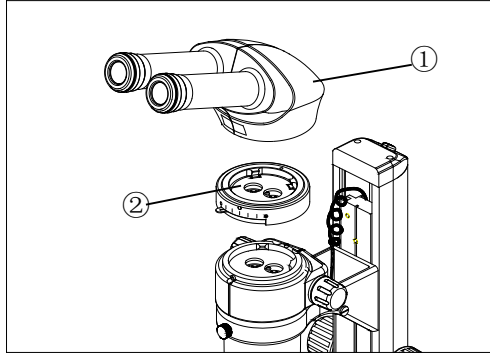
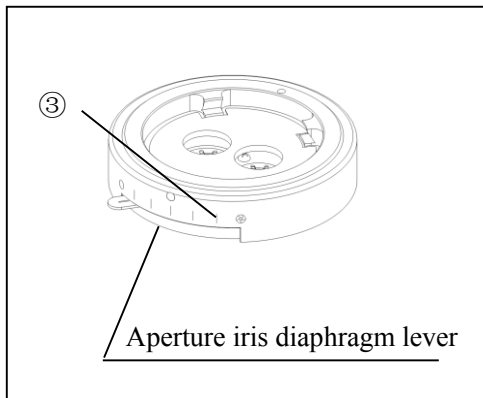

Fig.8
Fig.9
2.2.6. Mounting aperture iris diaphragm attachment (Fig.8, Fig.9)